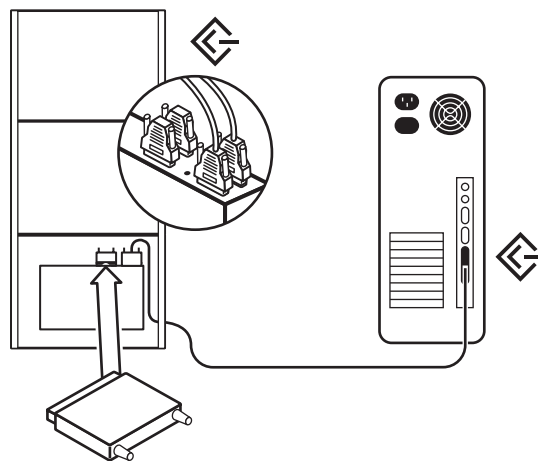

Figure 11: Connecting to the host
2. Connect the jukebox to your host computer and terminate the last device in the SCSI chain (see Figure 11).